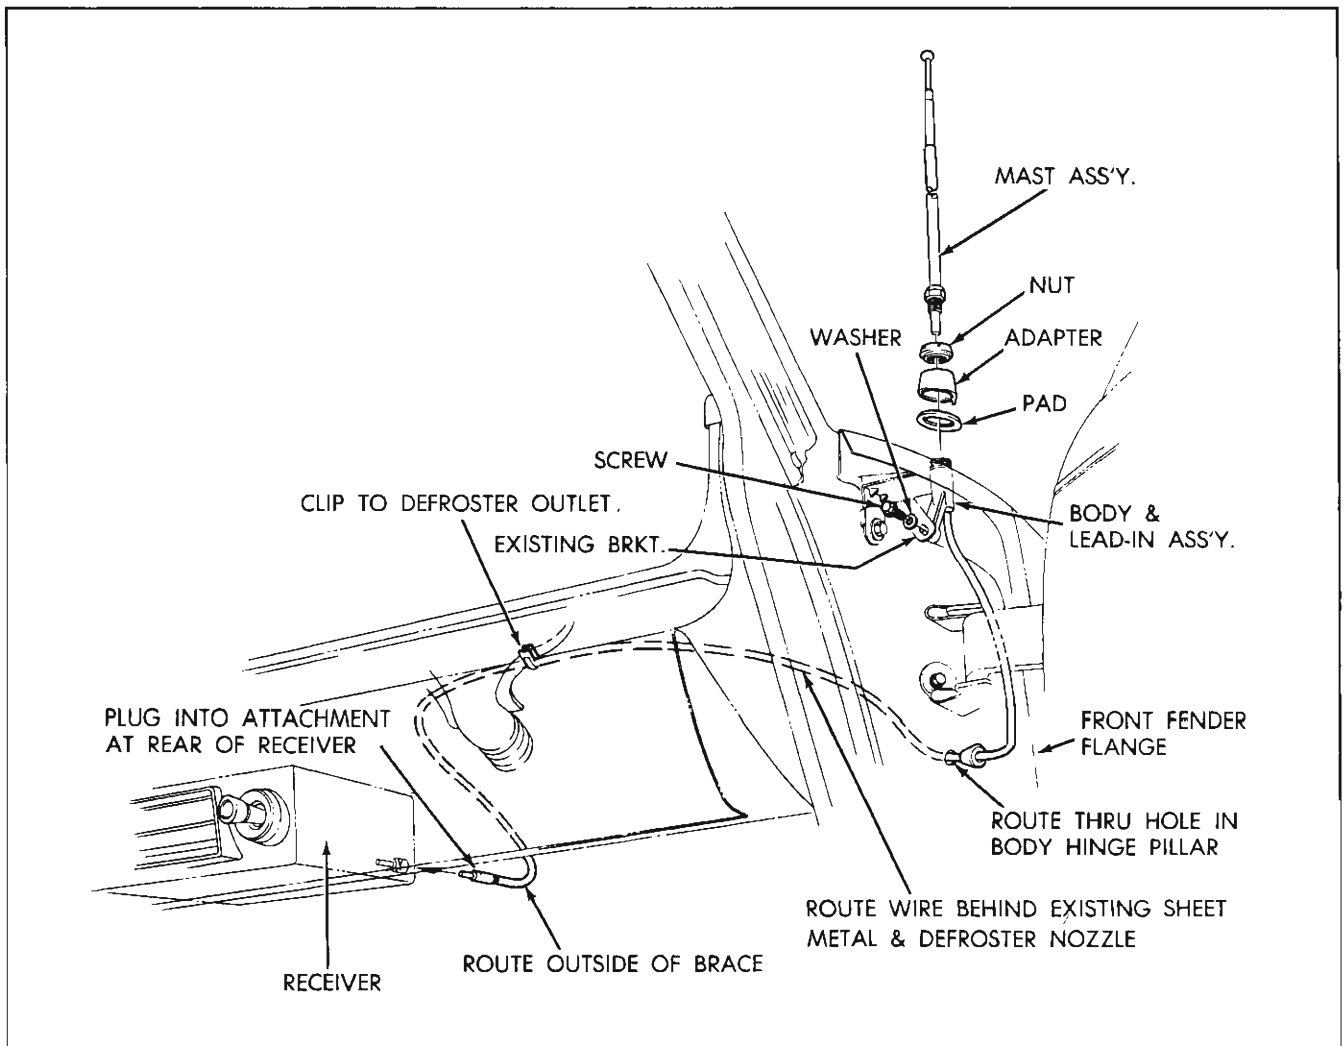

Fig. 12-18 Reference Illustration—Tempest Antenna
The manual antenna is mounted on the right front fender, in approximately a vertical position (Fig. 12-18).
6. Remove upper nut, adapter and pad (Fig. 12-18).